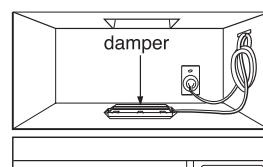

Figure 33
5. Roof venting installation: See Figure 33. Install ductwork through the vent opening in the upper cabinet. Complete the venting system through the roof according to the method needed. See "Prepare The Venting System" STEP 2. Use caulking gun to seal the exterior roof opening around the exhaust cap. See Figure 7 on page 8.